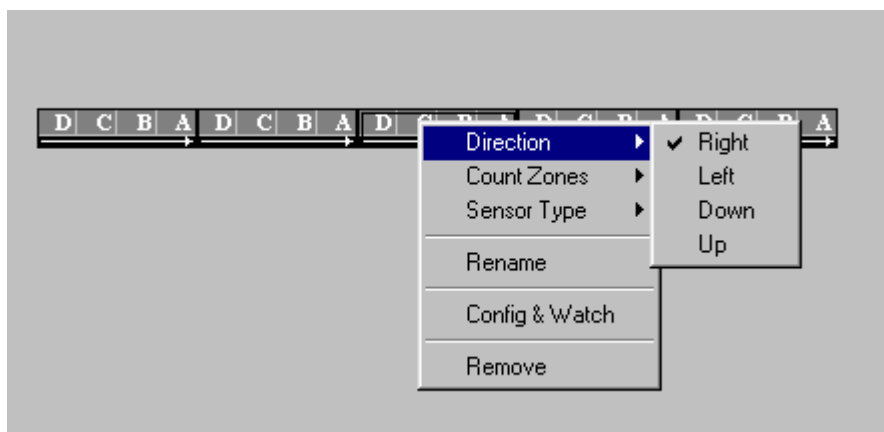

Fig.4.15
- Approach Direction item to open the options box – Fig. 4.15. The check sign Right shows that the third module is in the right position – consider the arrow on the bottom of the module's image.